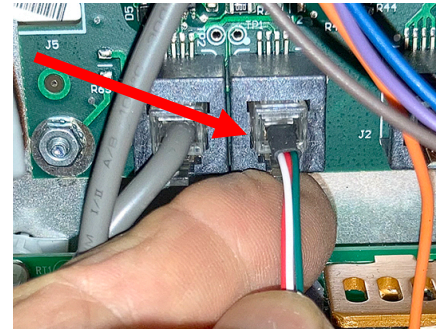

Figure 19
28. Disconnect the RJ11 CAN connector of the **OLD** harness from the FIB board and connect the RJ11 connector from the **NEW** harness to the FIB board (see Figure 19).